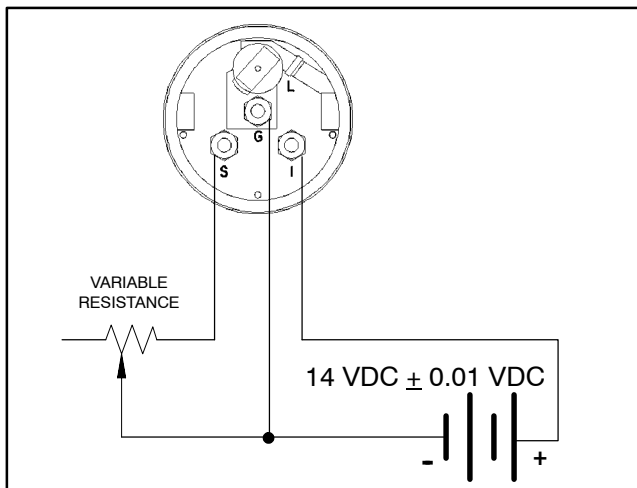

Figure 33
1. Connect temperature gauge to the variable resistance and DC voltage source (Fig. 33).
2. Take test point readings (Fig. 33).